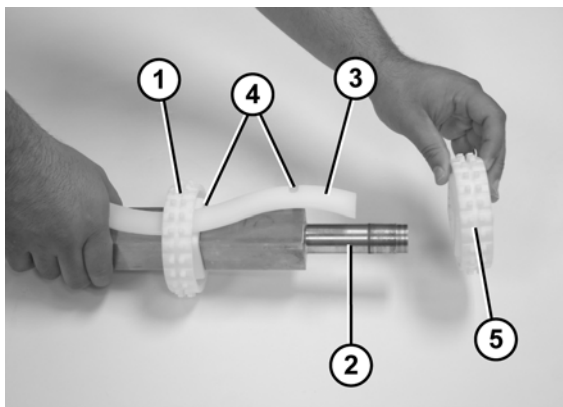

Figure 77
1. Slide the first sprocket (Figure 77, item 1) onto the drive spindle (Figure 77, item 2).
2. Insert the sprocket alignment bar (Figure 77, item 3) into the first sprocket and align the sprocket with the notch (Figure 77, item 4) in the sprocket alignment bar.
3. Slide the remaining sprockets (Figure 77, item 5) onto drive spindle and align each sprocket with the notches (Figure 77, item 4) in the sprocket alignment bar.